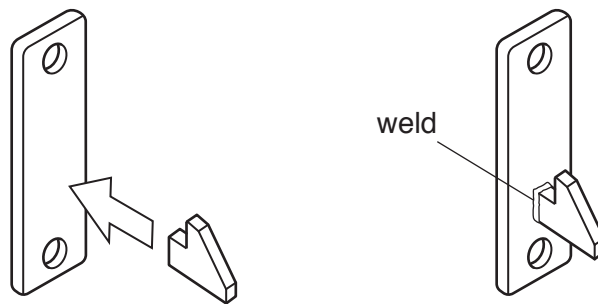

Fig. 3
- (c) Fig. 3 shows Part B of the gate latch, made from two pieces of mild steel welded together.